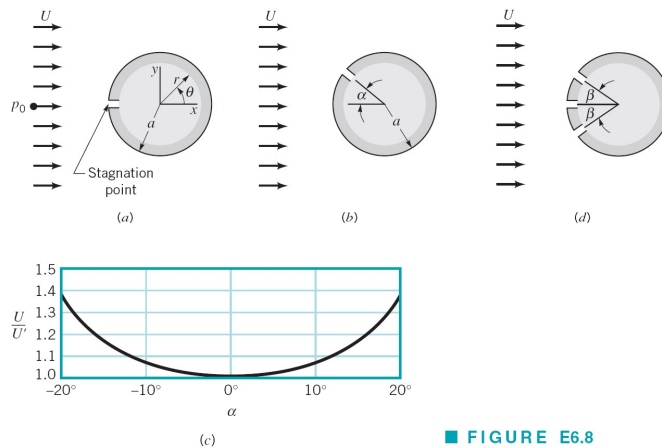

FIGURE E6.8
- When a circular cylinder is placed in a uniform stream, a stagnation point is created on the cylinder as is shown in Figure E6.8(a). If a small hole is located at this point, the stagnation pressure, p_{stag} , can be measured and used to determine the approach velocity, U . (a) Show how p_{stag} and U are related. (b) If the cylinder is misaligned by an angle α (Figure E6.8(b)), but the measured pressure still interpreted as the stagnation pressure, determine an expression for the ratio of the true velocity, U , to the predicted velocity, U' . Plot this ratio as a function of α for the range $-20^\circ \leq \alpha \leq 20^\circ$.